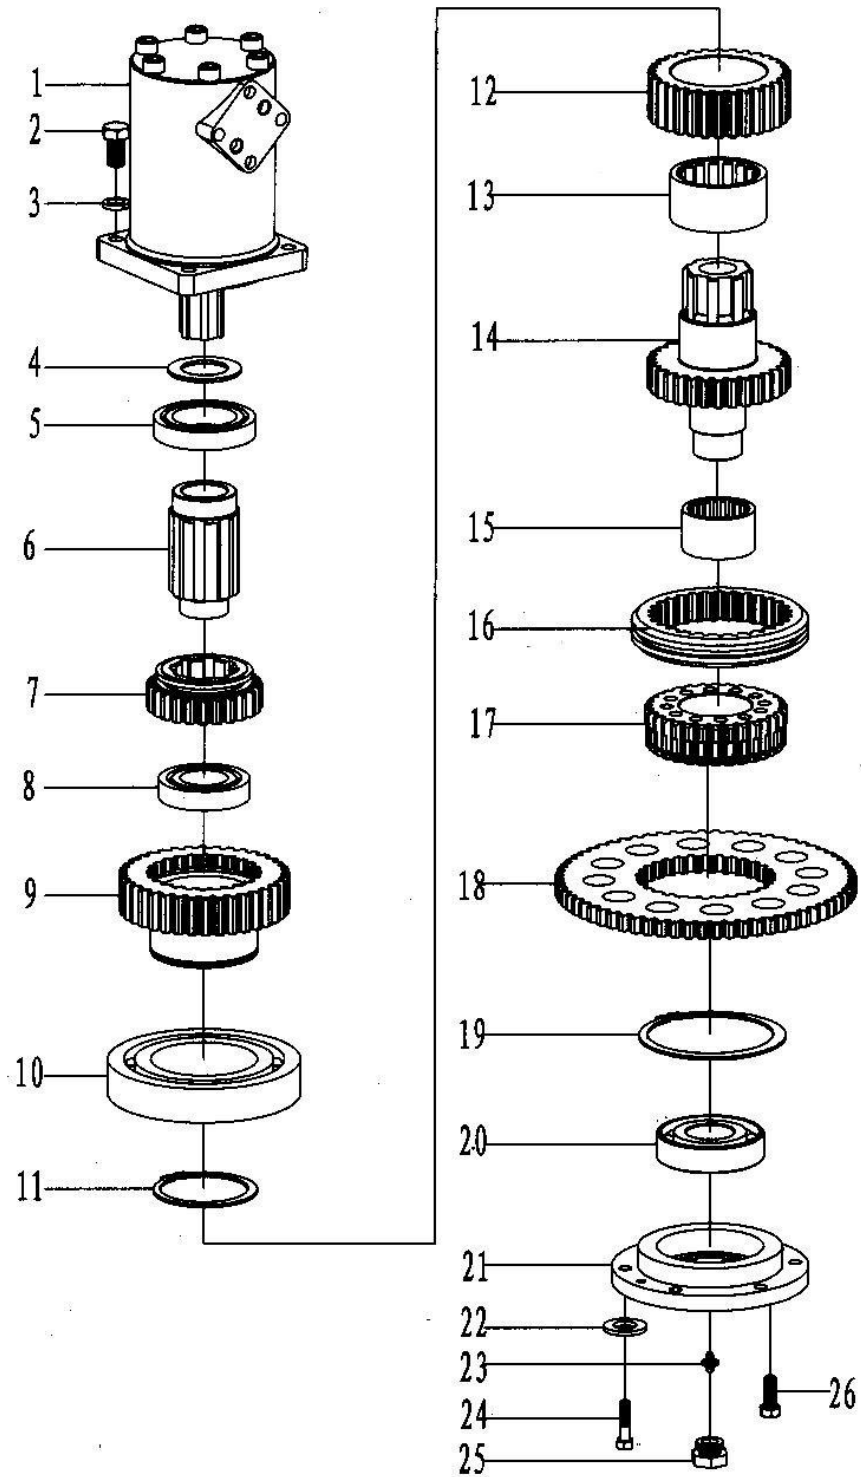

Fig 8
7.8 Assembly of power input (Fig 8, Table 8)